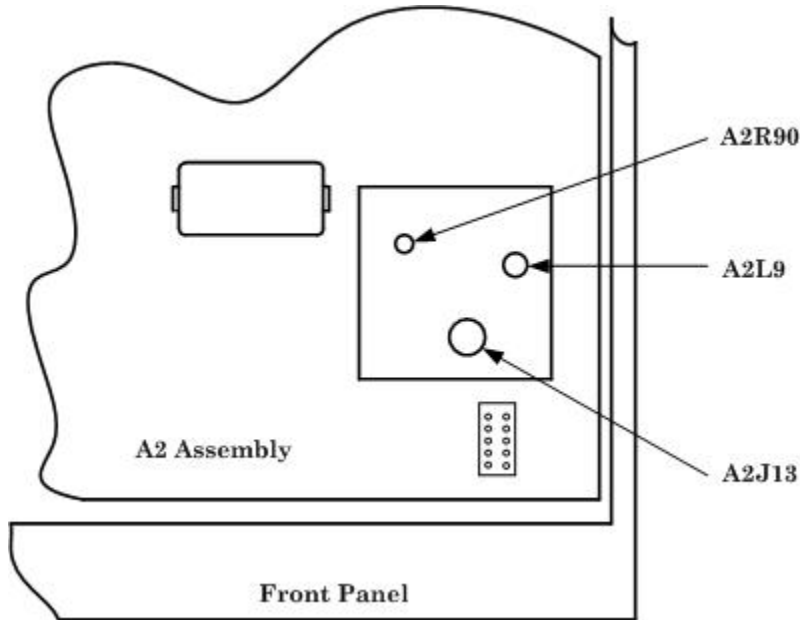

Figure 4. Adjustment locations.
- (1) Connect TI **POWER REF** output to frequency counter **A** input.
- (2) Press TI **Zero Cal**, [**Cal**], **More**, [**Power Ref On**] keys.
- (3) Adjust A2L9 (fig. 4) for 50.0 ± 0.5 MHz.
(23) Adjust A2R90 (fig. 4) until multimeter indicates value calculated in (22) above.